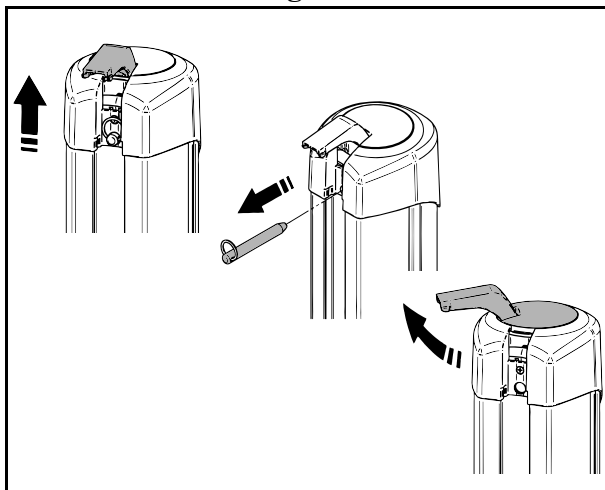

Fig. 7
1. Raise the red coloured emergency lever (see Fig. 7).